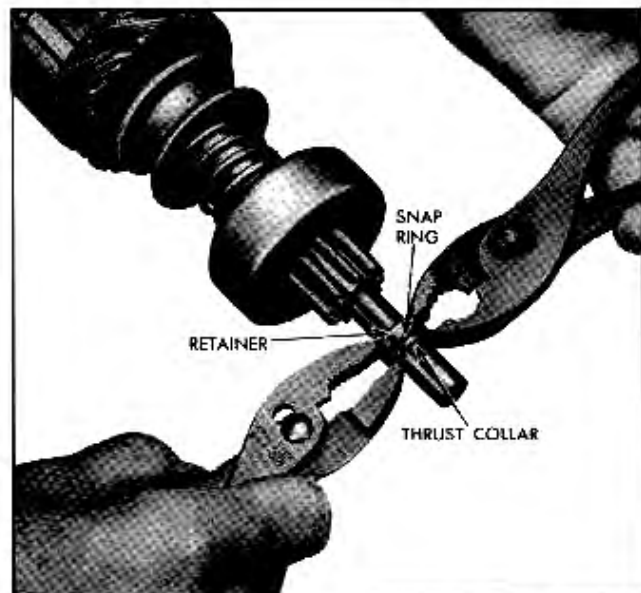

Fig. 12-42 Forcing Retainer Over Snap Ring
f. Place armature flat on work bench, and position retainer and thrust collar next to snap ring. Then, using two pairs of pliers at same time (one pair on either side of shaft), grip retainer and thrust collar and squeeze until retainer is forced over snap ring (Fig. 12-42).